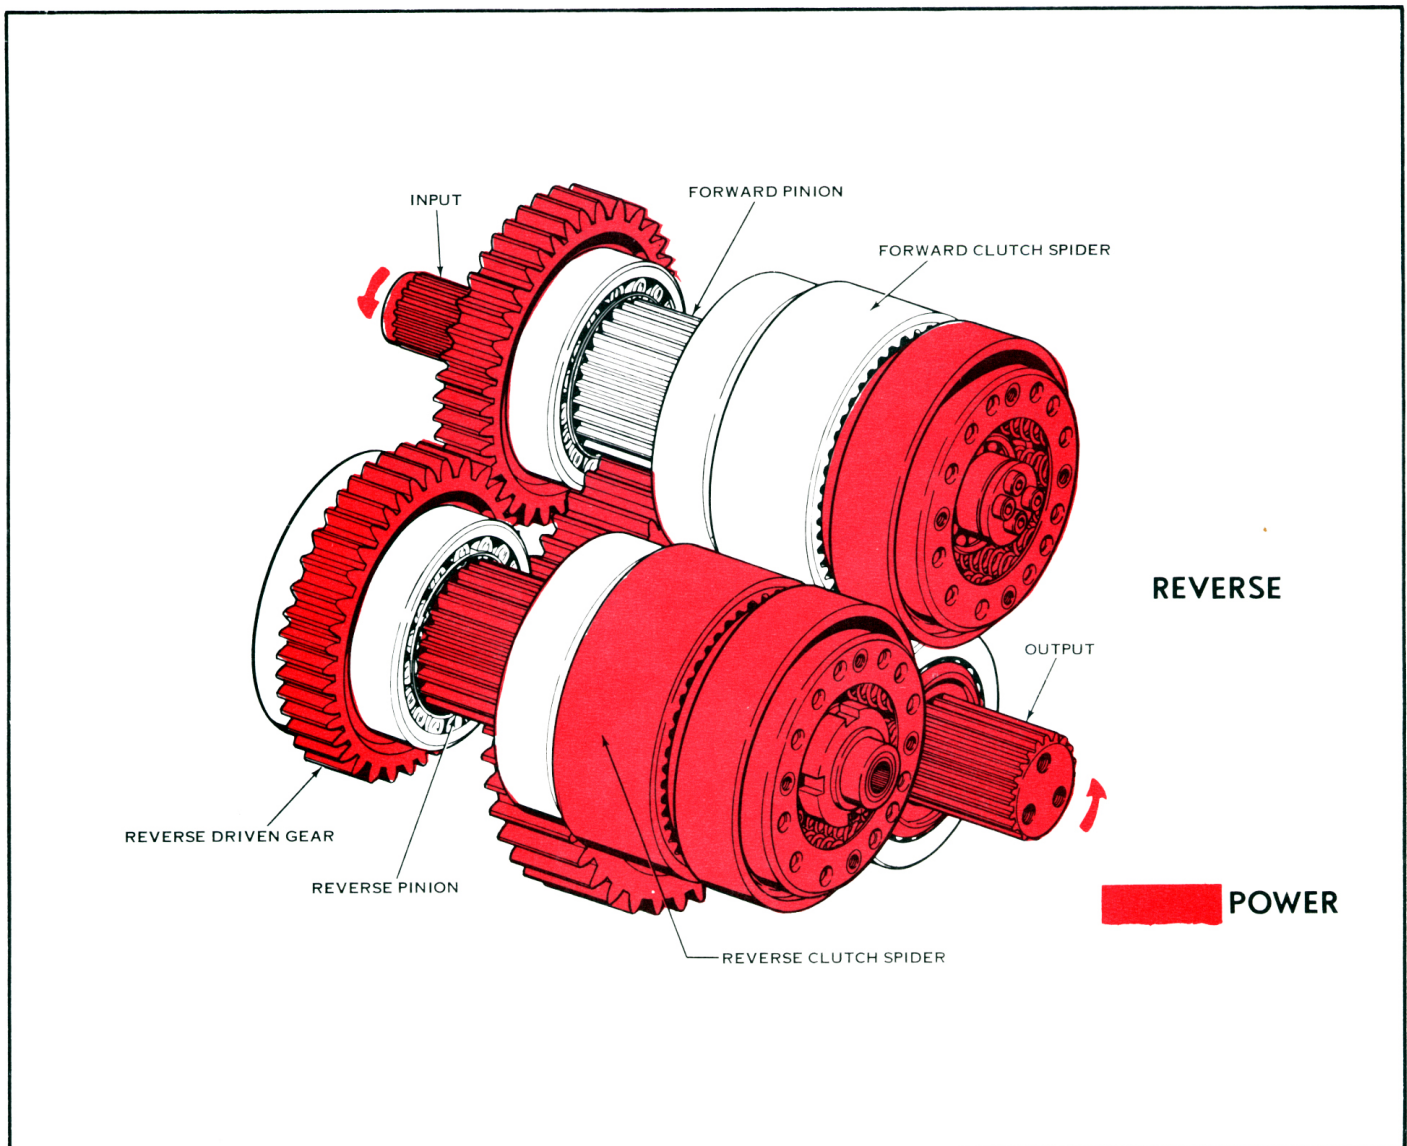

Figure 9. MG-509 Marine Gear Power Flow – Reverse.
C. Reverse (Fig. 9). When in reverse, all parts that rotated in neutral at engine speed are still turning. However, when the reverse clutch is engaged the steel clutch plates make positive contact with the sintered-metal clutch plates. The external gear teeth of the sintered-metal clutch plates drive the clutch spider which is spline-connected to the reverse pinion. Therefore, the reverse pinion rotates in anti-engine direction at engine speed when the reverse clutch is engaged. The reverse pinion is meshed with the output shaft gear which is keyed to the output shaft. The output flange is spline-connected to the output shaft and, therefore, the flange rotates in engine direction when in the reverse position. The output shaft and flange rotate at a reduced speed due to the ratio between the output shaft gear and the reverse pinion.